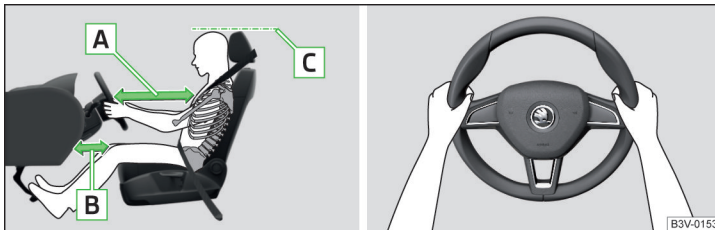

Fig. 2 Correct seated position for the driver/correct steering wheel position
- ✓ For vehicles equipped with driver knee airbags, adjust the driver's seat in a forward/back direction so that there is a gap of at least 10 cm between the legs and the dashboard in the vicinity of the knee airbag » Fig. 2 - [B].
- ✓ Adjust the steering wheel so that the distance between the steering wheel and your chest is at least 25 cm » Fig. 2 - [A].
- ✓ Adjust the headrest so that the top edge of the headrest is at the same level as the upper part of your head (not for seats with integrated headrests) » Fig. 2 - [C].
- When driving, hold the steering wheel with both hands firmly on the outer edge in the "9 o'clock" and "3 o'clock" position » Fig. 2. Never hold the steering wheel in the "12 o'clock" position or in any other way (e.g. in the middle, inner edge of the steering wheel or similar). Otherwise, you could sustain serious injuries to the arms, hands and head if the airbag is activated.
- ✓ Adjust the headrests so that the top edge of the headrest is at the same level as the upper part of your head » **Fig. 2 on page 11 - C** (not for seats with integrated headrests).
- ✓ Adjust the headrests so that the top edge of the headrest is at the same level as the upper part of the head » **Fig. 2 on page 11 - C**.